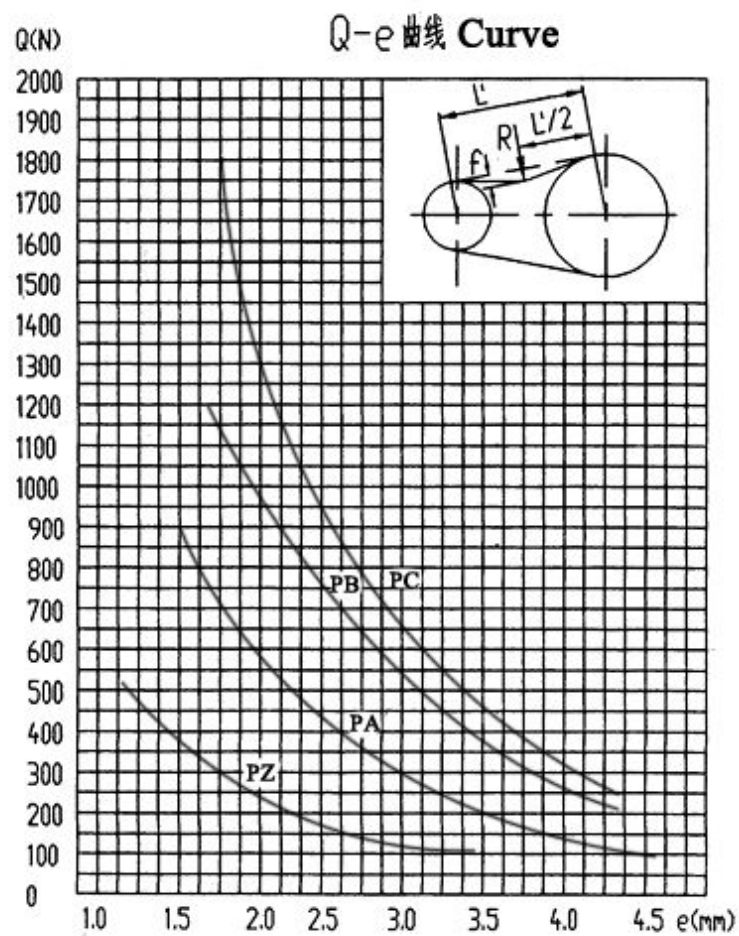

Fig.3
(4) R value related with the type of Vee-belt can be looked up in Fig. 3. According to the method in Fig.3 and the center distance between two pulleys, the required prevention will be reached.